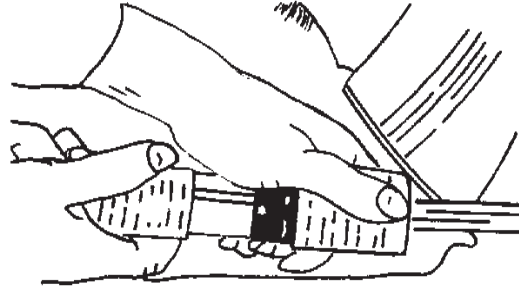

Figure 5
2. Make sure the control switch is in the "Off" position then connect the supply cable to an appropriately grounded fused circuit. Connect the supply cable to the motor pigtail. (Figure 5)